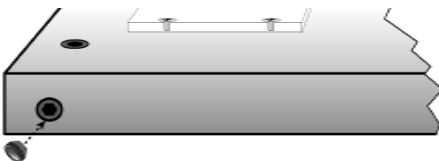

Fig.1
13. Periodically check fence for square and if necessary adjust by tightening or loosening set screws on rear of fence angle. See Fig.1